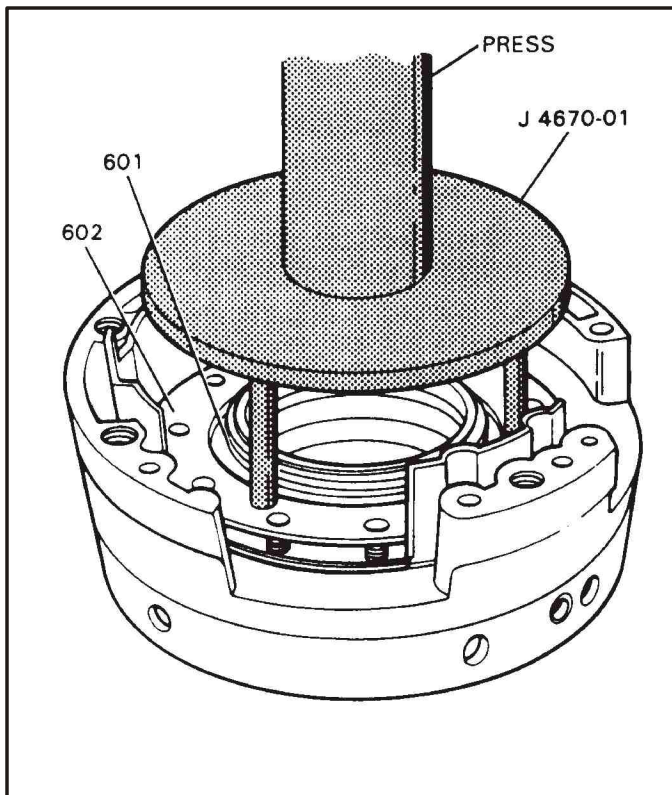

Figure 125
1. Compress the 4th clutch return spring assembly as shown in Figure 125, remove the snap ring.
12. Compress the return spring and install the snap ring, as shown in Figure 125.